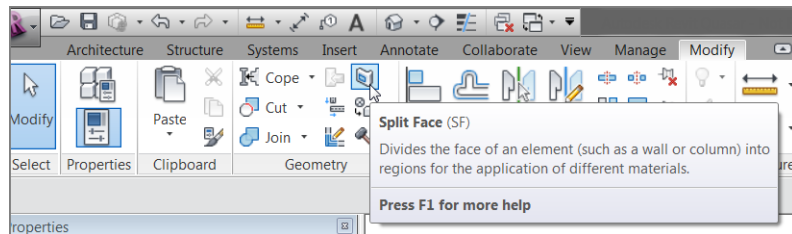

FIGURE 6.40: The Split Face button is located on the Geometry panel of the Modify tab.
2. On the Geometry panel of the Modify tab, click the Split Face button, as shown in Figure 6.40.